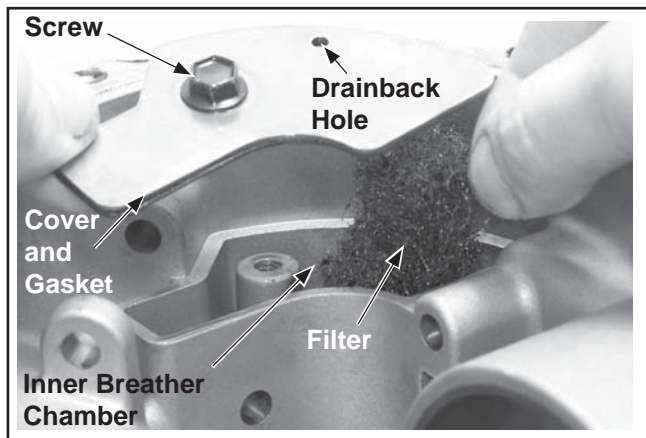

Figure 8-52. Removing Breather Cover and Filter.
2. Carefully remove the cover, gasket, and the breather filter. See Figure 8-52. Make sure the drain back hole is not plugged or restricted.